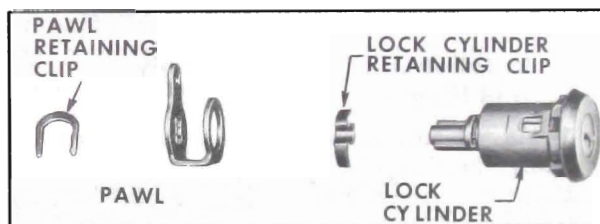

Figure 2-17 Front Door Lock Cylinder Assembly
2. Remove pawl retaining clip, pawl and lock cylinder retaining clip (see Figure 2-17).